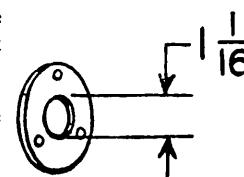

FIG. 2. Dimensions for Ball Bearing Retainer Plate.
8. In assembling the motor use a new ball bearing retainer plate, (Ford part No. A-11133-R), or bore out the present plate to a diameter of $1\frac{1}{16}$ inch so that the stop nut on the end of the Bendix drive can pass through this retainer plate (see Fig. 2).